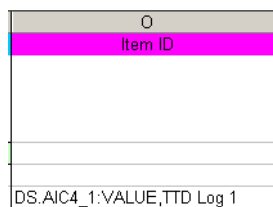

Figure 291. Entering the Data Source Specification
4. Enter the Data Source specification in the Item ID column, Figure 291.